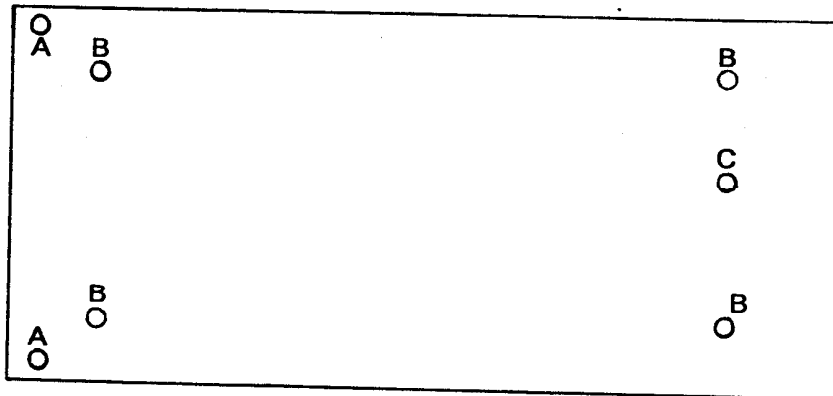

FIGURE 5-4 BOTTOM PLATE
- 1) Remove the four screws holding the front bezel assembly. (two on the top plate and two on the bottom plate, marked "A" on Figures 5-4 and 5-5)
5.4.2 Remove Bottom Plate (See Figure 5-4)